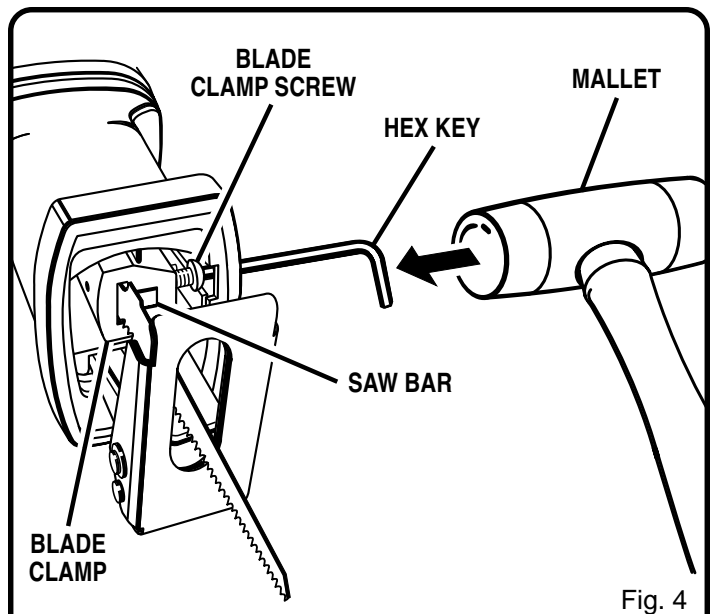

Fig. 4
**Note:** There may be times when the blade clamp sticks to the saw bar and will not loosen enough to allow blades to be installed or removed. If this happens, loosen the blade clamp screw with the hex key, then tap lightly on the end of the hex key with a mallet. See Figure 4.